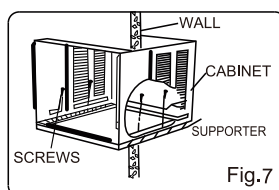

Fig.7
- When need to drain off water, intall the drain plug on the Chassis board. Then fix the cabinet on the supporter (provide for yourself or contact the dealer)(see Fig.7).